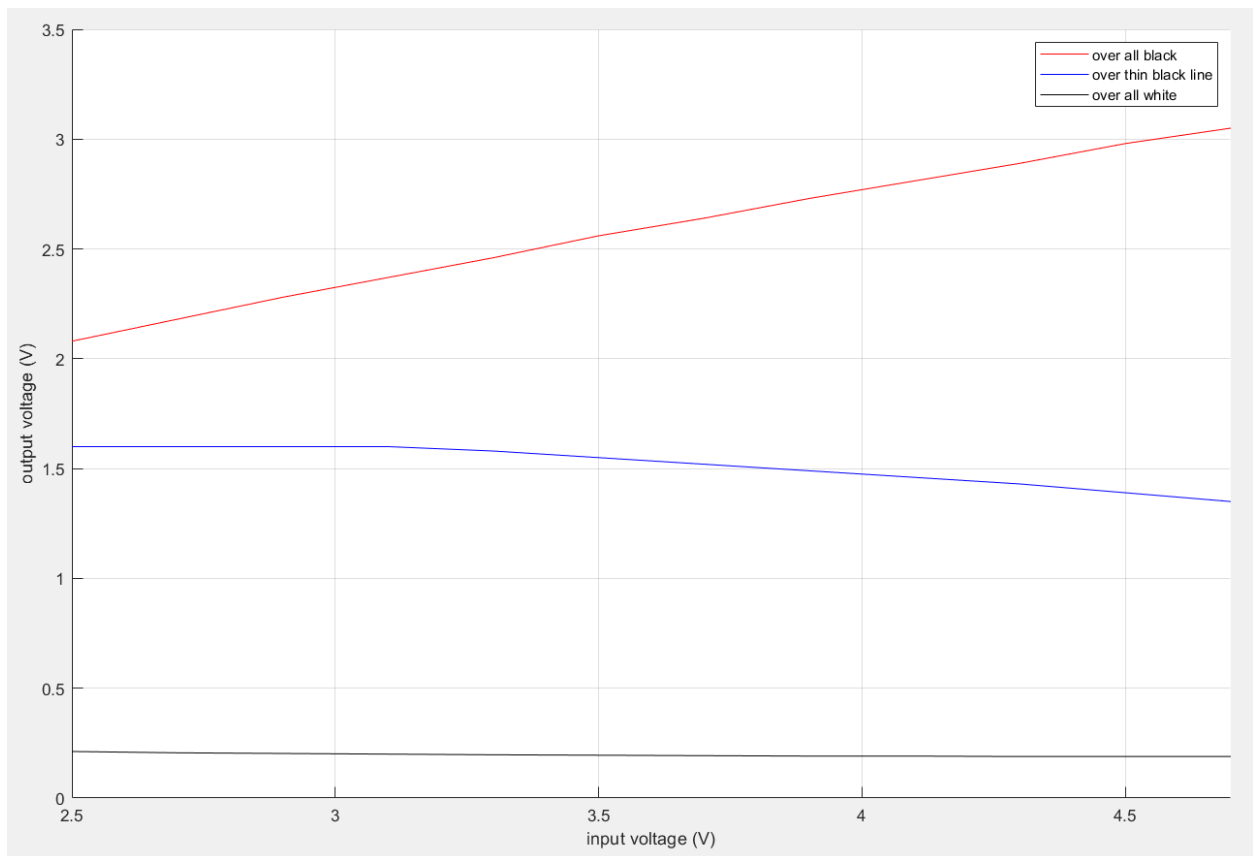

Figure 14 Output voltage dependence on input voltage over different features.  $R1 = 1 \text{ k}\Omega$ ,  $R2 = 220 \text{ k}\Omega$ , height = 2 mm.
- Input voltage. Higher voltage improves all black and all white readings. Higher voltage improves reading over thin black line up to some voltage after which parasitic light might become so bright that output voltage might start decreasing. See Figure 14.